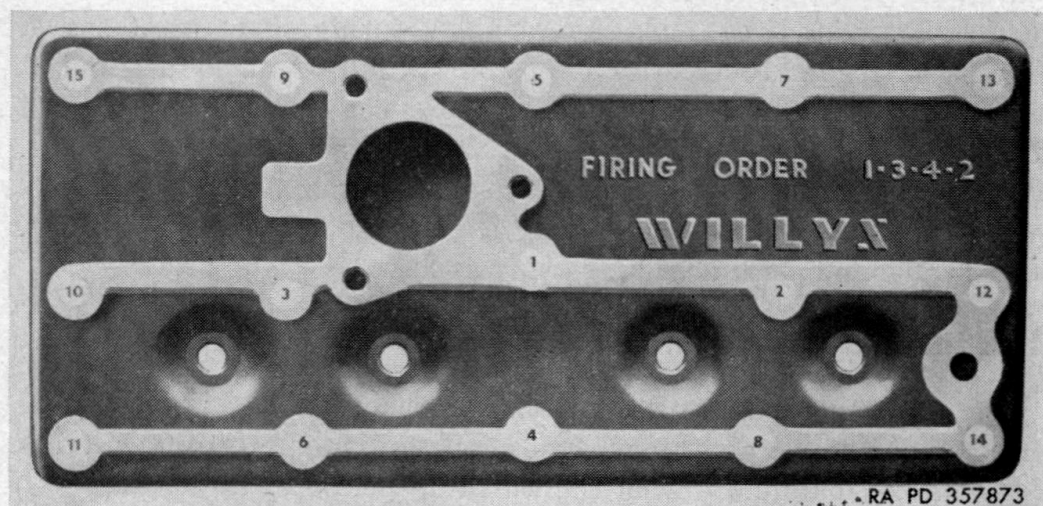

Figure 16. Cylinder head bolt tightening sequence.
**Caution:** Do not damage oil filler pipe. Install oil filter, and air cleaner tube bracket. Install cylinder head nuts. Tighten cylinder head nuts evenly in proper sequence (fig. 16), using a torque-indicating wrench (tighten to 60 to 65 ft-lb torque). Connect oil filler tube and attach spark plug cables to correct plugs. Install radiator upper tube, tighten hose clamps, and close radiator drain cock. Fill the cooling system, giving due attention to antifreeze if required (par. 244, table IV). Start engine, and check cooling system for leaks. See that the coolant level has not gone down; replenish if necessary.